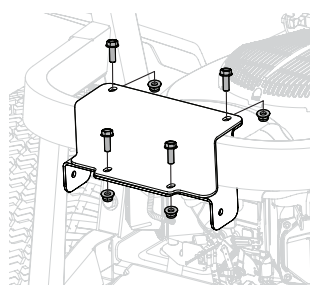

Figure 6
- Holding both brackets in place, loosely secure assembly around frame tube with four hex head screws (710-1238) and four lock nuts (712-04063). See Figure 6.